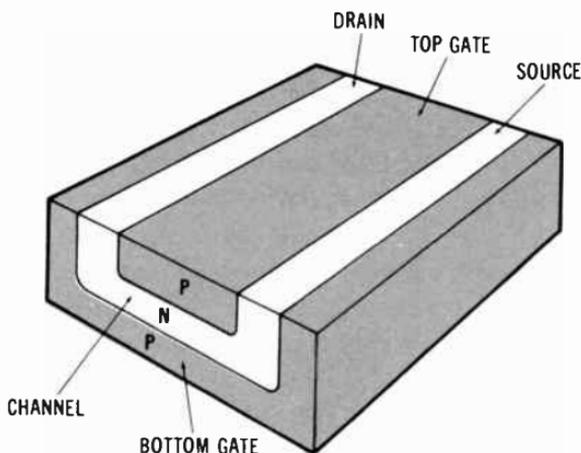

Fig. 8-1. Construction of n-channel FET.
The FET is a three-terminal device, like the conventional or bipolar transistor. The FET terminals are called *gate*, *source*, and *drain*. The FET includes a bar of n- or p-type semiconductor material called a *channel*, as shown in Fig. 8-1. The channel is electrically similar to a resistor. One end of the channel is called the *Source* (S). The other end is called the